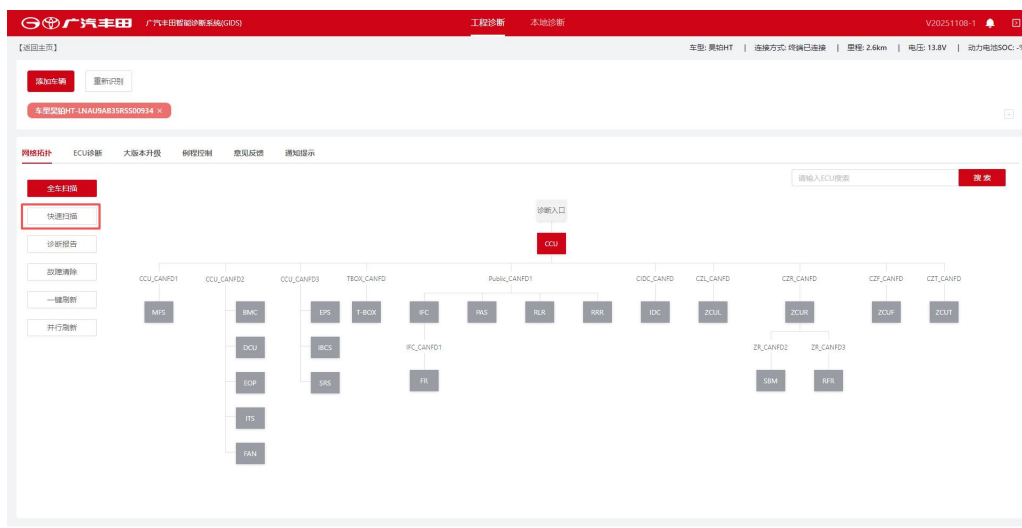
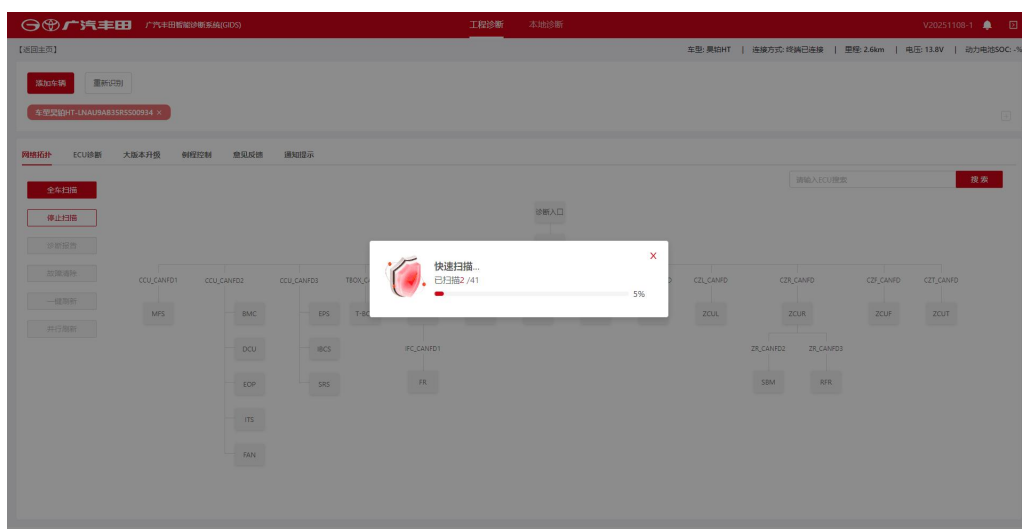

Figure 4-9 Quick Scan Button
Figure 4-10 Quick Scan in Progress
1. Click [Quick Scan], as shown in Figure 4-9 Quick Scan Button. The system enters scanning status, mainly scanning the details of each ECU, as shown in Figure 4-10 Quick Scan in Progress.